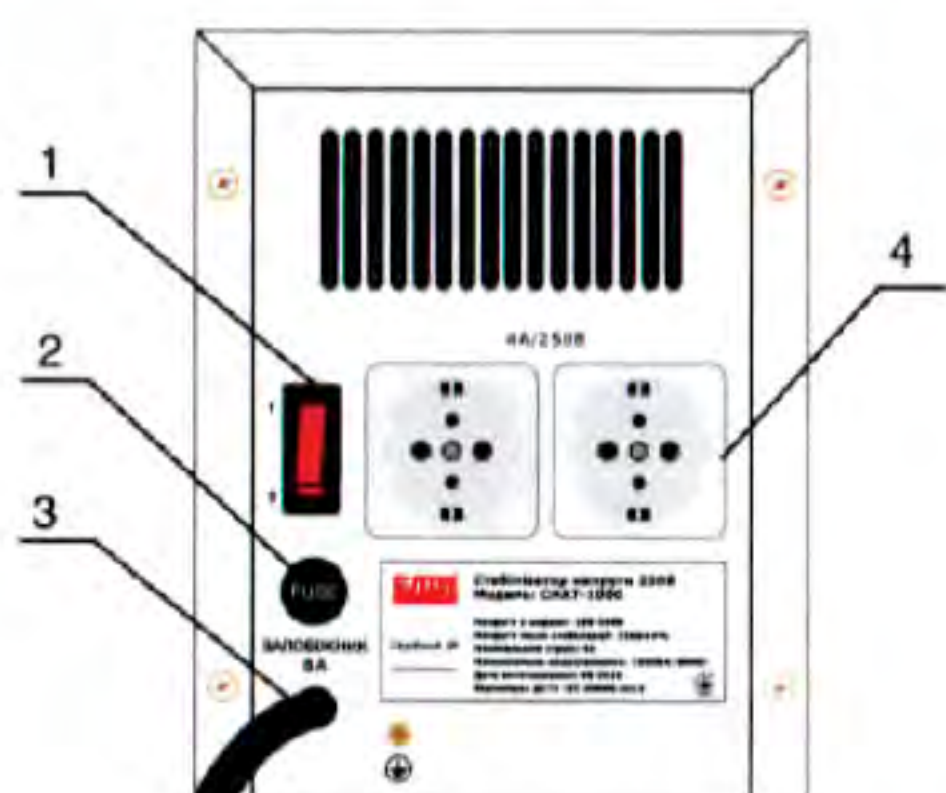

Figure 2:
4.2 The rear panel of the CHAT-1000VA ~ 3000VA contactless AC voltage stabilizer is shown in Figure2;